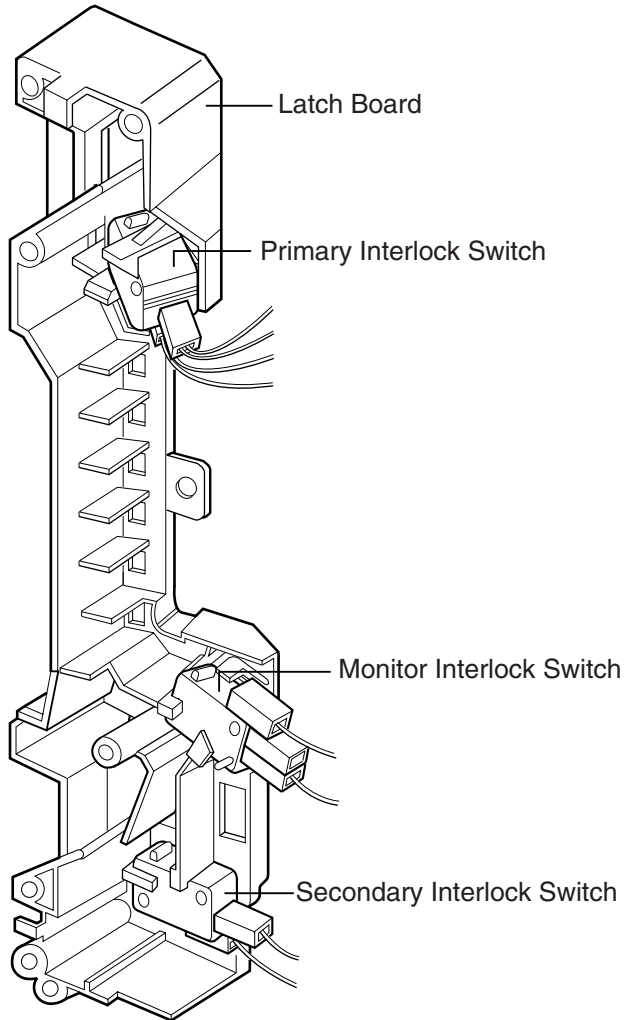

Figure 9
C. REMOVING THE DOOR INTERLOCK SWITCHES (Figures 9, 10)
- (1) Disconnect the wire leads from the interlock switches.
- (2) Remove two screws securing the Latch Board.
- (3) Make necessary replacements and check microwave energy leakage according to "ADJUSTMENT PROCEDURES" on page 7-12.